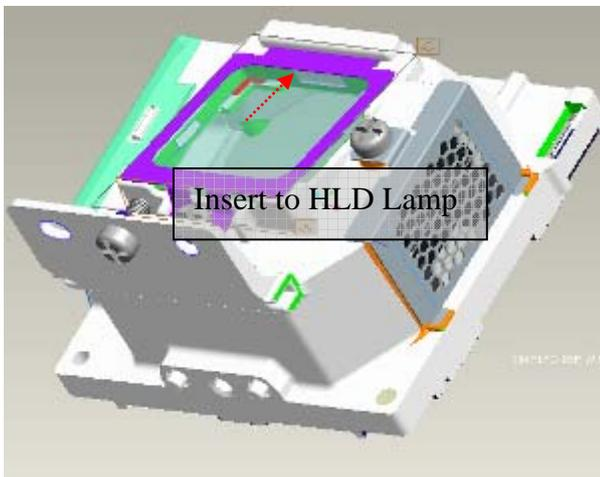

Fig. 1-8
- iii. To make sure F/G Clip inserts with HLD lamp and lock screw well. (Figure 1-8,1-9)